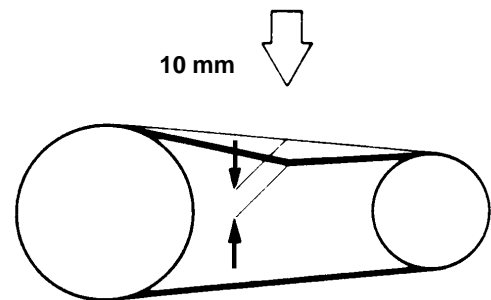

Fig. 32 Checking V-belt tension
- The best tension for a belt drive is the lowest possible, where the belt under full load does not slip. A rough value for this is when the belt deflects **10 mm** when pressed with thumb pressure between the two pulleys (Fig. 32). For best results we recommend our v-belt tension meter, part no. N25238.
- Adjust motor until the belt tension is correct (see Fig. 32).